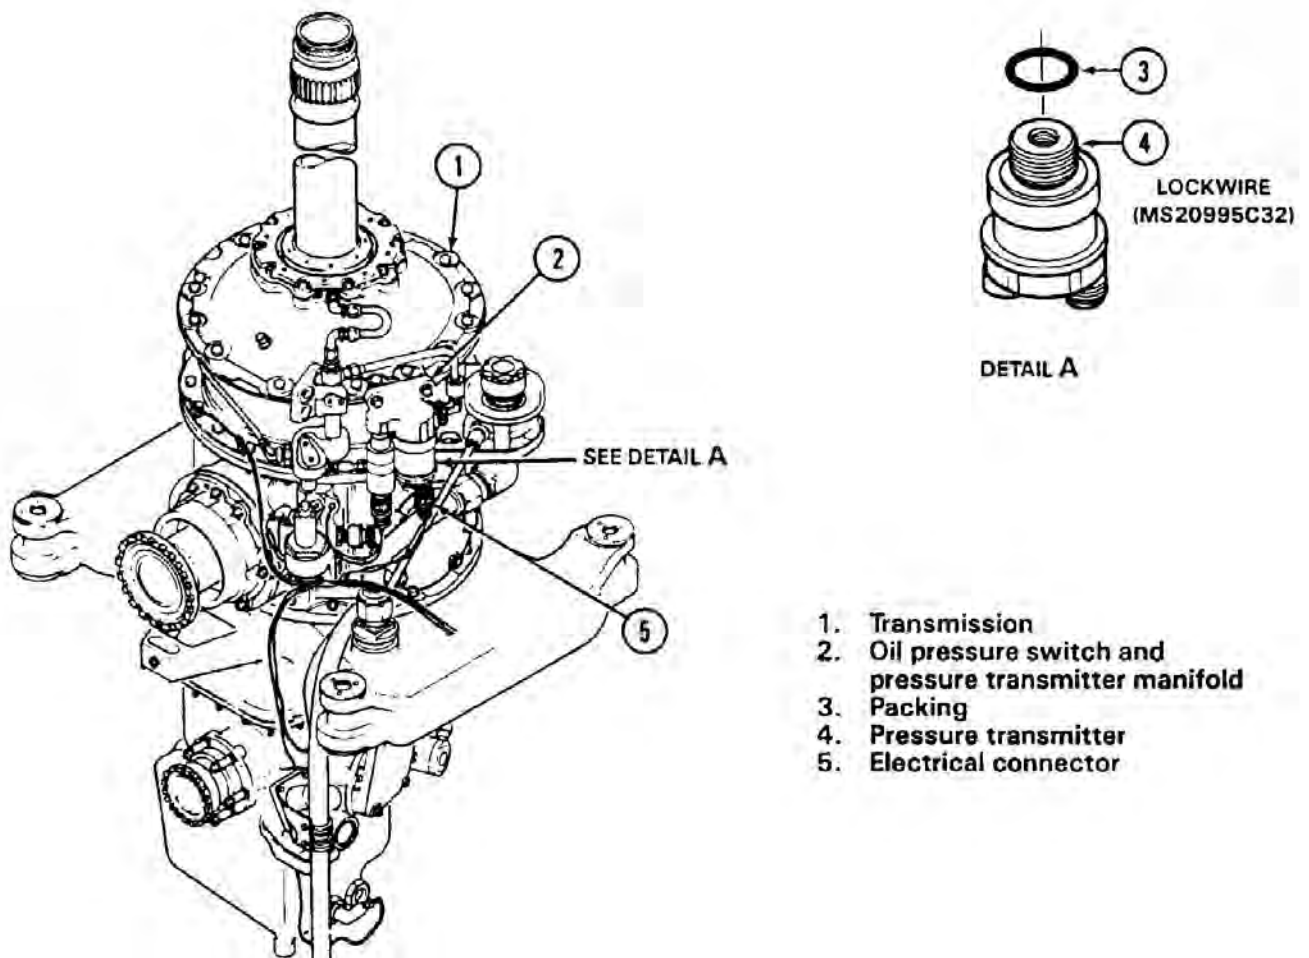

Figure 63-37. Transmission Oil Pressure Transmitter
63.5.20.1.1 Disconnect electrical connector (5, Figure 63-37).
Inspect transmitter (4, Figure 63-37) and electrical connector for bent pins, damaged threads, dents, or other mechanical damage rendering transmitter unserviceable.
63.5.20.3.1 Lubricate packing (3, Figure 63-37) with transmission oil (Chapter 12).